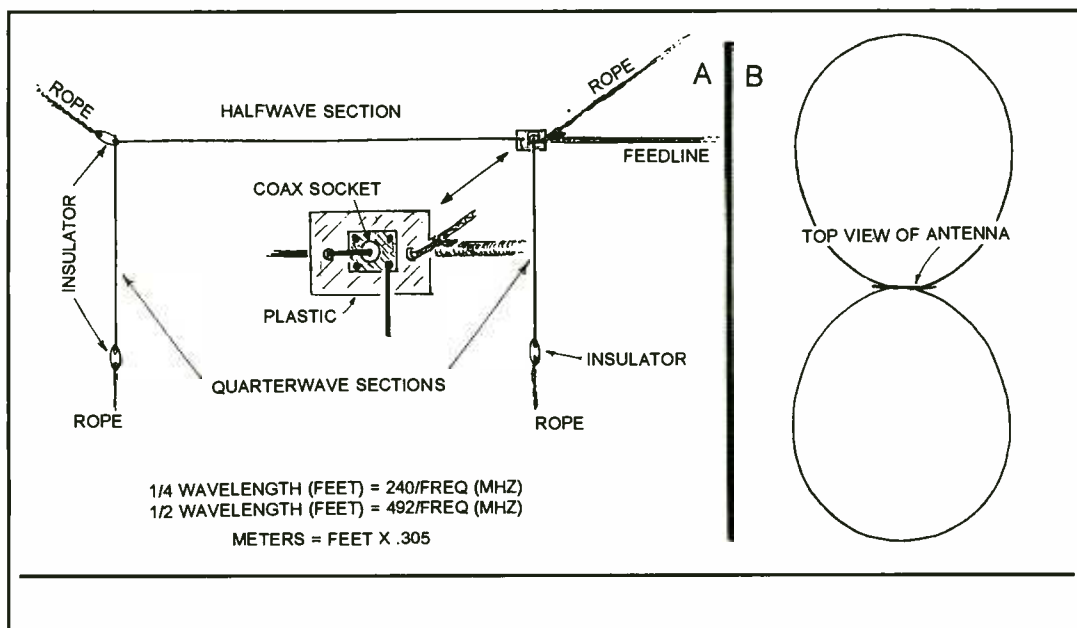

FIG. 1. A half-square beam antenna (A). The antenna's horizontal radiation-reception pattern (B).
1. Two pieces of wire are required: a vertical quarter wavelength piece ( $240/f$  in fig. 1), and a three-quarters wavelength piece which is composed of one vertical quarter wavelength section ( $240/f$ ) and the horizontal half wavelength section ( $492/f$ ).